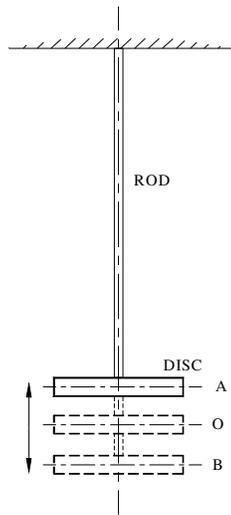

FIGURE 4
*Linear / Longitudinal vibrations:* When the disc is displaced vertically downwards by an external force and released as shown in the figure 4, all the particles of the rod and disc move parallel to the axis of shaft. The rod is elongated and shortened alternately and thus the tensile and compressive stresses are induced alternately in the rod. The vibration occurs is known as *Linear/Longitudinal vibrations*.
*Equilibrium Method:* Consider a body of mass 'm' suspended from a spring of negligible mass as shown in the figure 4.